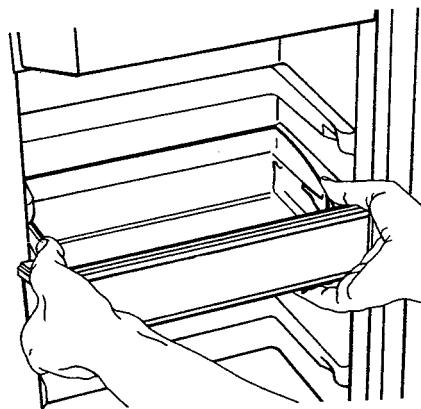

Figure 16.
b. Push lock tabs toward center with your thumbs and forefingers. See Figure 16.